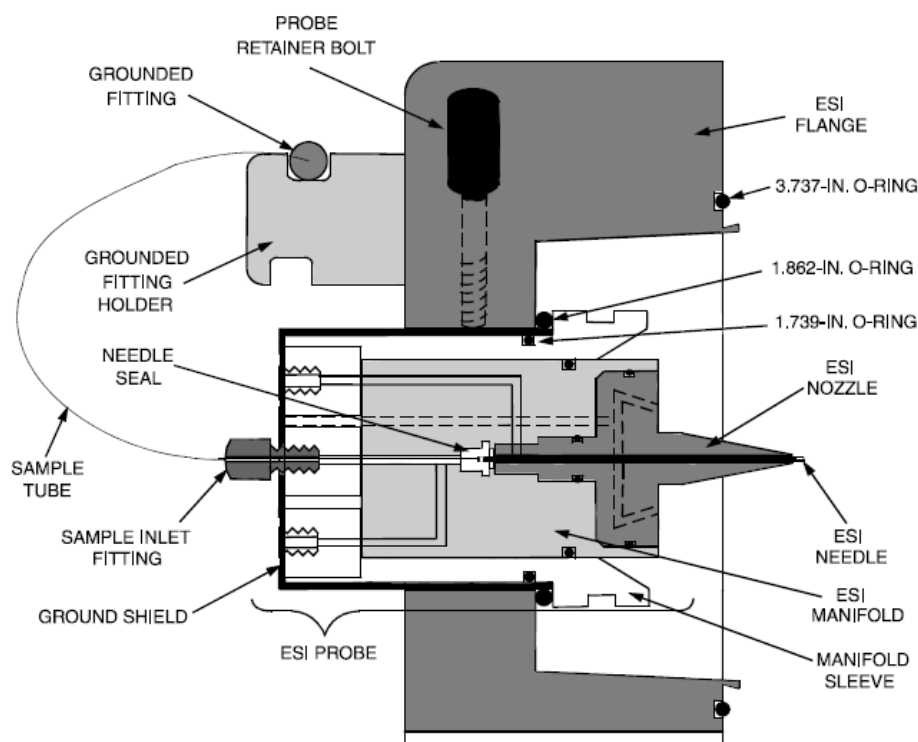

Figure 3. Cross sectional view of the ESI probe assembly.
- 8.1.3.1.1. Remove the transfer line fitting from the grounded fitting holder on the ESI flange. See Figure 3.